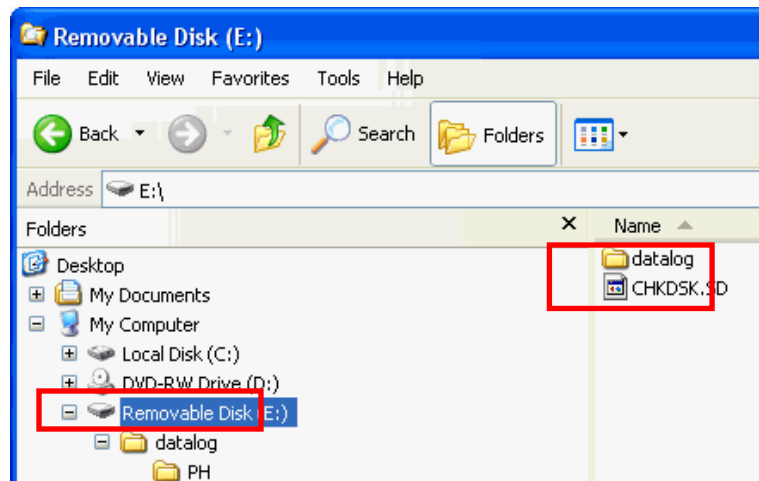

Figure 6: Datalog Folder and CHKDSK.SD File on Removable Disk
4. Prior to logging data, type the command [FSFORMAT]A:;DEFAULT to check for corruption and to format the internal flash drive; a “CHKDSK.SD” file will be created automatically upon completion of formatting and stored in the “datalog” folder (see Figure 6).
6. Create a directory in the current working directory for data logging: Type [FSMKDIR] followed by a directory name. (i.e. [FSMKDIR] “Pt\_Conception”, Refer to the [FSMKDIR] command for details on creating directories.) Repeat to create multiple directories for data logging. The directories will be stored in the “datalog” folder (see Figure 6).
2. On the *Input Terminal*, type [USBMODE]Device, MassStorage. The SF-3050 2GB internal memory chip will show in Windows Explorer as an additional “removable” drive (see Figure 6).
3. Open the datalog folder (see Figure 6) on the removable drive and select the folders or files to store on the PC (see Figure 8).